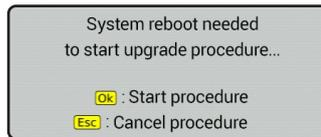

Fig. 174
- The message in Fig. 174 is displayed: confirm the update by pressing **OK** again.